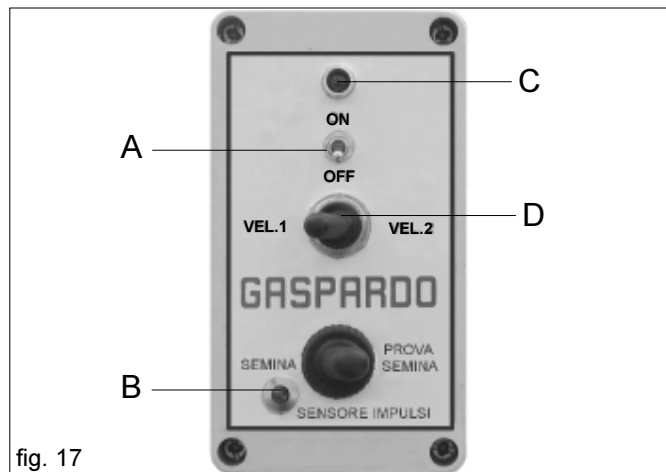

fig. 17
The loading of seeds in the hopper must always be carried out with the equipment (Harrow + Vitigreen) resting on the ground and with the rear roller locked. **Climbing onto the rear roller is forbidden.** Switch (A Fig. 17) on the console must be in the OFF position and the 12V supply cable disconnected.
- Check that switch (A Fig. 17) on the console is in the OFF position.
- Set switch (D Fig. 17) to "Sowing test";
During sowing, the detection of the pulses, and consequently actual seed distribution, will be indicated by a LED (B Fig. 17) on the consol.
- 8) **Never leave live electrical parts. Make sure the LED (C Fig. 17) is off.**